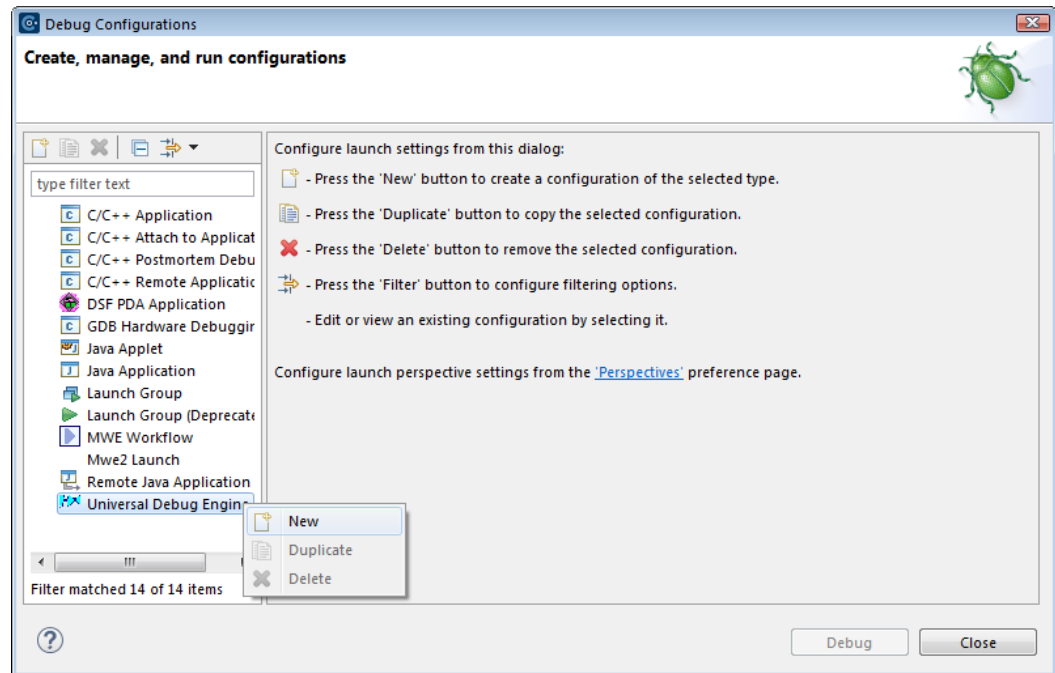

Figure 33 Debug Configurations dialog
2. The **Debug Configurations** dialog appears. Select **Universal Debug Engine** as debug type (Figure 33).